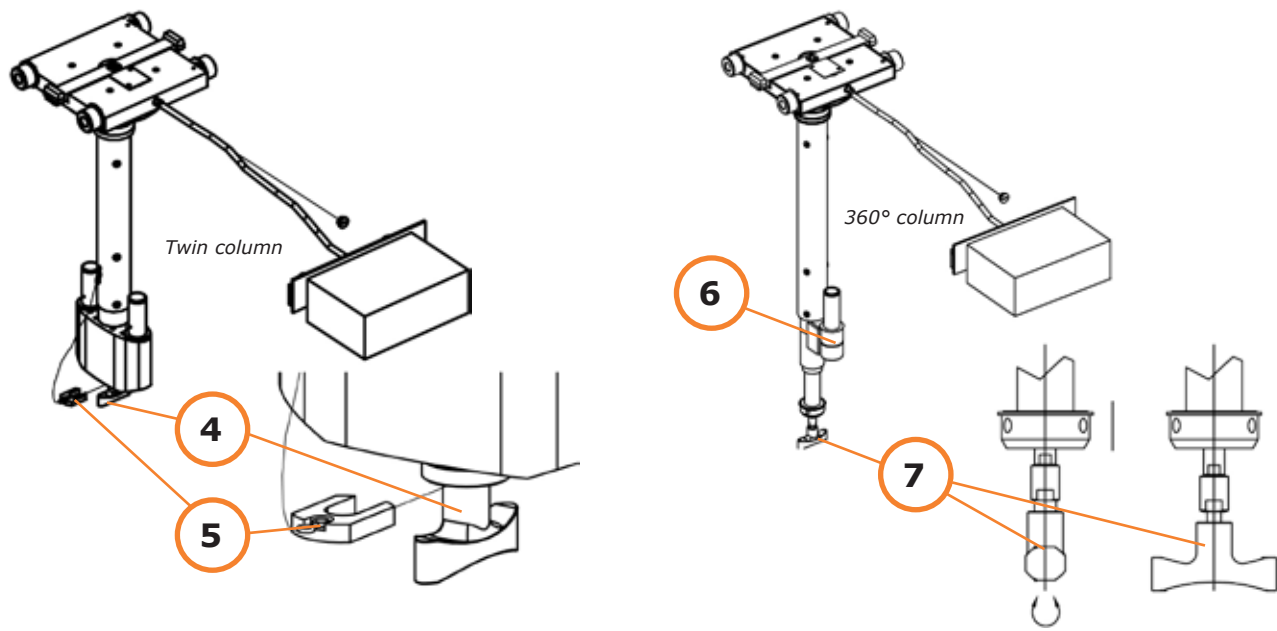

Fig. 7
- 4.4.2 For *Twin Column* models, pull down the T-handle grip (4/Fig. 7) of the column to release the carriage brake. If desired, you can insert the attached brake release clip (5/Fig. 7).
NOTE: The position of the upper pin (6/Fig. 7) of the 360° column on SIEMENS versions may be turned 90° from what is seen in Fig. 7.
For *360° Column* models, pull down the T-handle grip (7/Fig. 7) of the column and turn it 90° to the left to release the carriage brake.